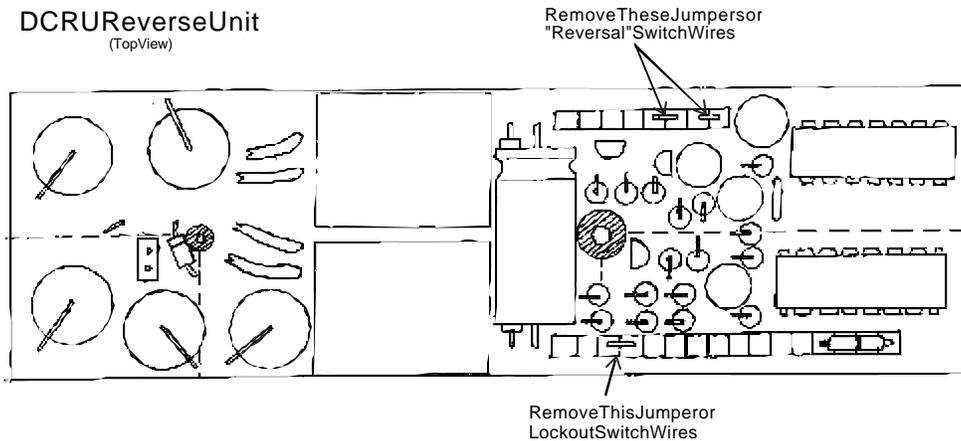

Figure 14: Prepping The DCRU Reverse Unit For ProtoSound Installation
3) Remove the two jumper straps or wires from the socket strips that run along the sides of the reverse unit as shown in Figure 14. In addition, you will also have to remove the lock-out switch and its wires that are connected into two of these socket holes. Remove these wires by simply pulling them out of the sockets and remove the switch by unscrewing it from the tender floor. You will not need a lock-out switch since ProtoSound can lock your engine out by remote control.